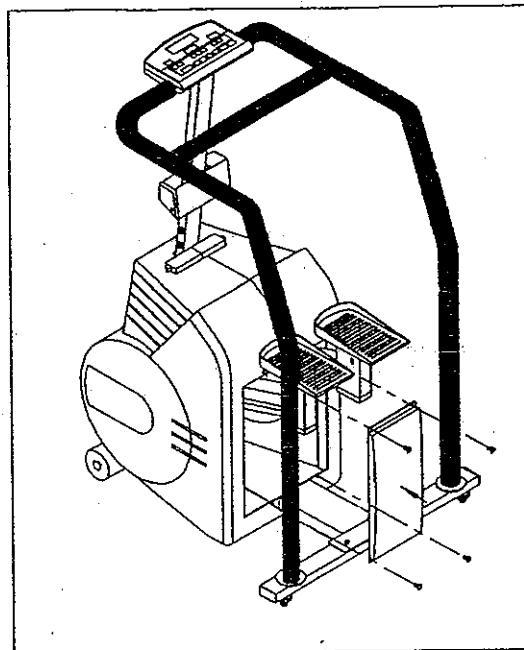

Fig. 23
8. Secure the front cover with screws (see Fig. 23).